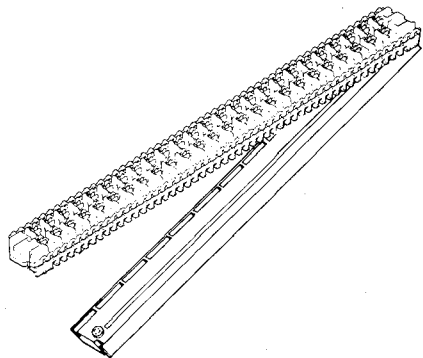

Fig. 90—Remove red protector.
- b. Remove red protector from bottom of bridging body. See Figure 90.